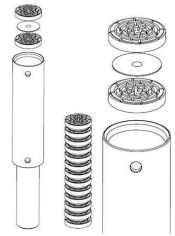

fig. 23
- Hold the whipping pipe in vertical position and insert the pushing rod from the bottom. Insert a whipping disc, add an intermediate disc (cone down). Alternating, add the remaining whipping discs (13 pcs.) and intermediate discs (12 pcs.), resp. insert the entire whipping column. (fig. 23)